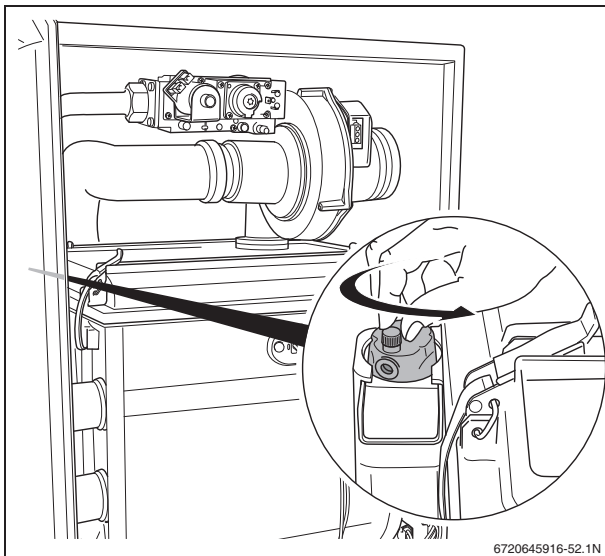

Fig. 52 Opening the automatic air vent
- Loosen the cap of the automatic air vent (fig. 52) by turning 1/4 rotation counterclockwise.